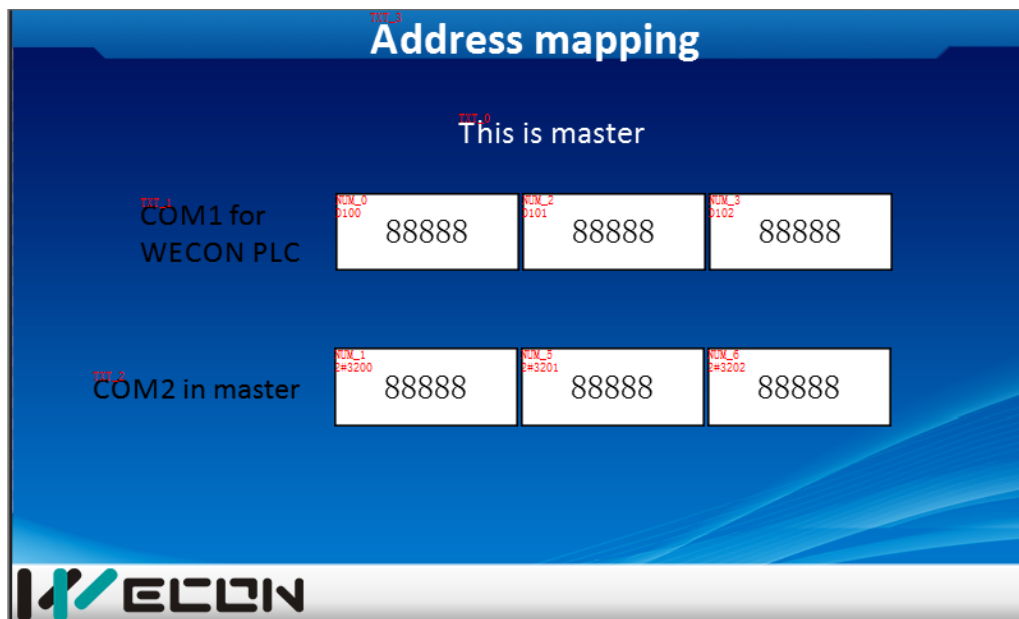

Figure 4
- 1) Adding six numeric input/display, the first group is for PLC address. And the second group is for MODBUS communication, just like Figure 4 shows.